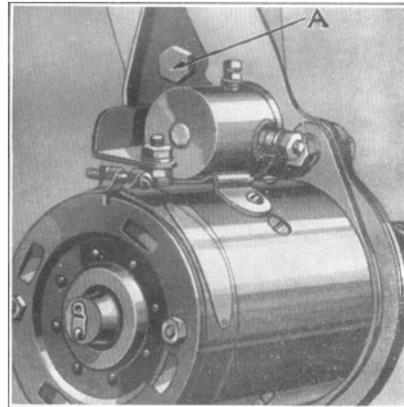

Figure 35
The clutch is drained without disturbing the flywheel guard by removing hex plug (A), Fig. 35, in the front face of the flywheel. Then rotate the flywheel until the first star stamped on the flywheel face appears in inspection hole over starter motor and allow the old fluid to drain out. Turn flywheel until filler hole reappears and refill with  $\frac{1}{3}$  pint of HUDSONITE CLUTCH COMPOUND. Replace plug and tighten securely.